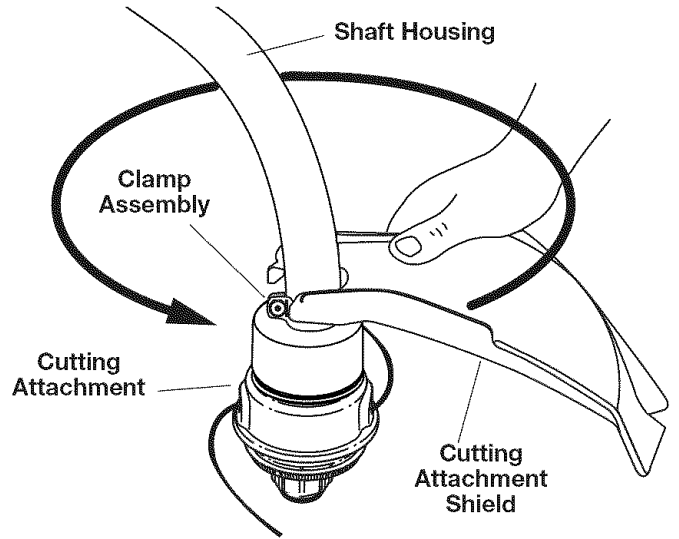

Fig. 4
1. Place the cutting attachment shield onto the shaft housing above the clamp assembly (Fig. 4).
2. Push the cutting attachment shield down to the top of the cutting attachment assembly and then rotate the cutting attachment shield 180°. Align the 4 screw holes and fit the cutting attachment shield securely in the recessed pocket (Fig. 4).